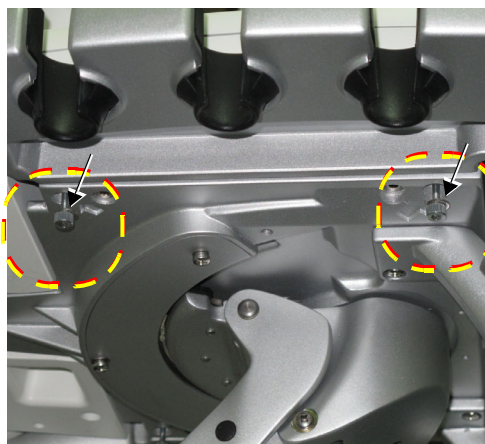

Figure 8-50 Removing the Hex Screws under Keyboard Assembly - Right Side
- 3) Working from beneath the keyboard assembly, loosen the two Hex screws on the system's *right* side (arrows marked in the figure indicate the screw locations) as shown in Figure 8-50 below.